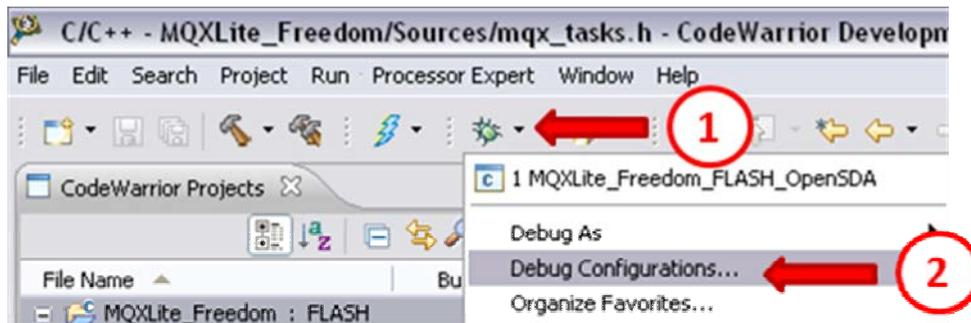

Figure 37. Entering into Debug Configurations.
1. Go to the debug button (bug icon) in the tools bar and expand the debugging menu just like Figure 37 demonstrates it. Then click in “Debug Configurations...” option to enter into the available debug settings for the project.